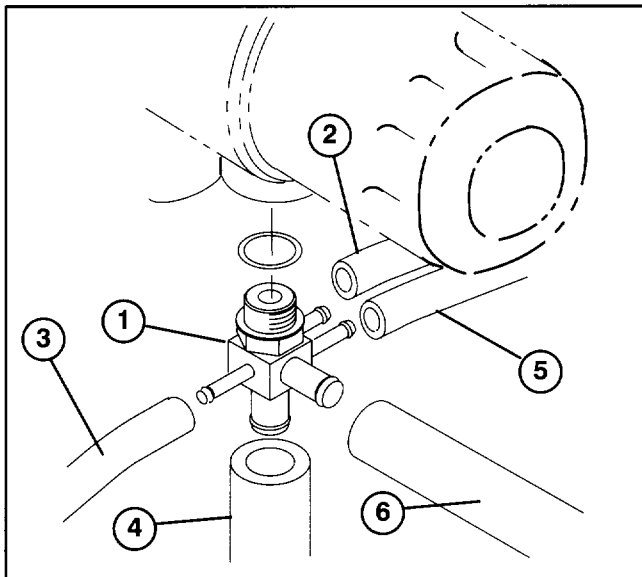

Figure 16
29. Install new special fitting (92–5640) into bottom of transmission (Fig. 16). Position fitting so side with two openings points toward right side of machine.
30. Reinstall lift cylinder hoses and return hose to new cross fitting. Position hoses as shown in figure 16.
31. Install hydraulic hose to 90° fitting on front of manifold block and remaining opening on side of cross fitting with (2) hose clamps. Reposition 90° fitting, as required, for hose connection.